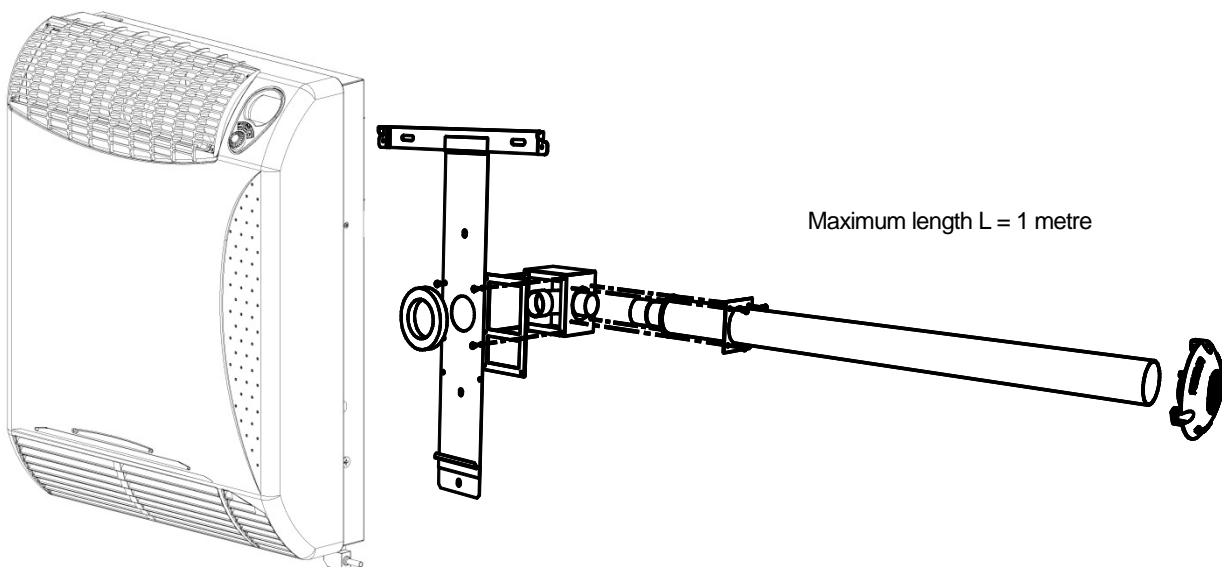

Figure 4 - Example of coaxial pipe installation with 90° elbow fitting
- With coaxial pipes with 90° outlet (max. pipe length: 1 metre) (see Figure 4). In this case, a 90° elbow fitting for coaxial pipes is available as an accessory.